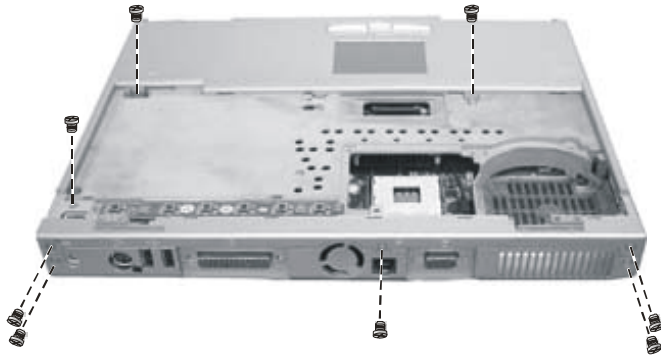

Figure 2-22 Remove the base unit cover
4. Remove five screws on the rear side of the notebook, and remove three screws locking on the base unit cover. (Figure 2-22)